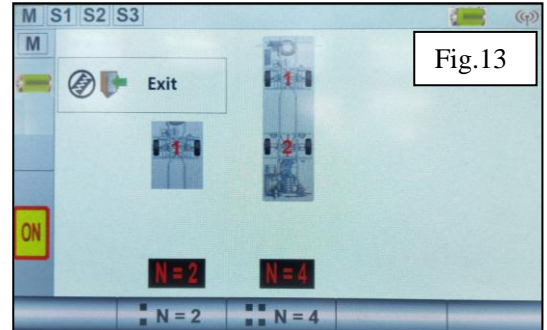

Fig.13
- Referring to the chapter 8.1.1, unlock the operation and enter to the online grouping page as shown in the figure 13;